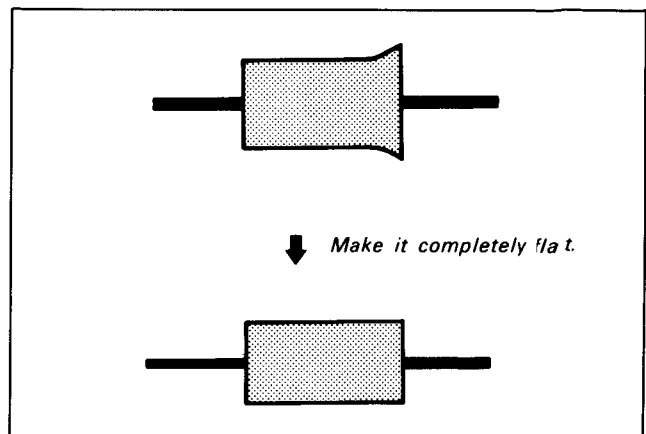

Fig. 8-83.
- 6) Turn No.4 guide so that waveform flat (Fig. 8-83)